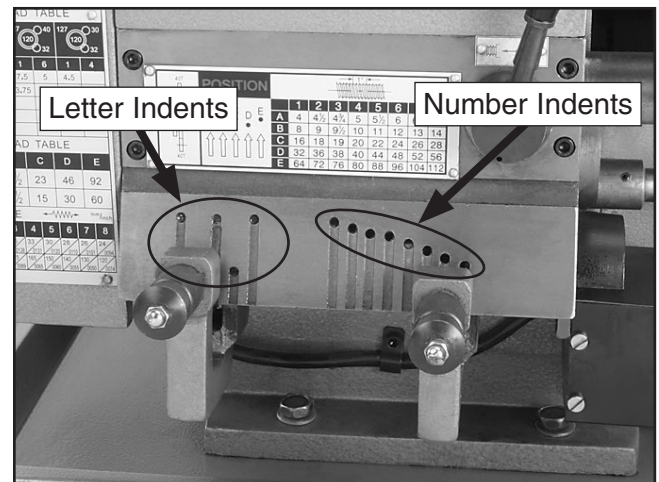

Figure 54. Feed rate selectors.
4. Pull the knob of the feed rate selector and rotate it down. Line up the selector with the desired indent, rotate the selector up, and allow the pin to engage into the indent (see **Figure 54**).